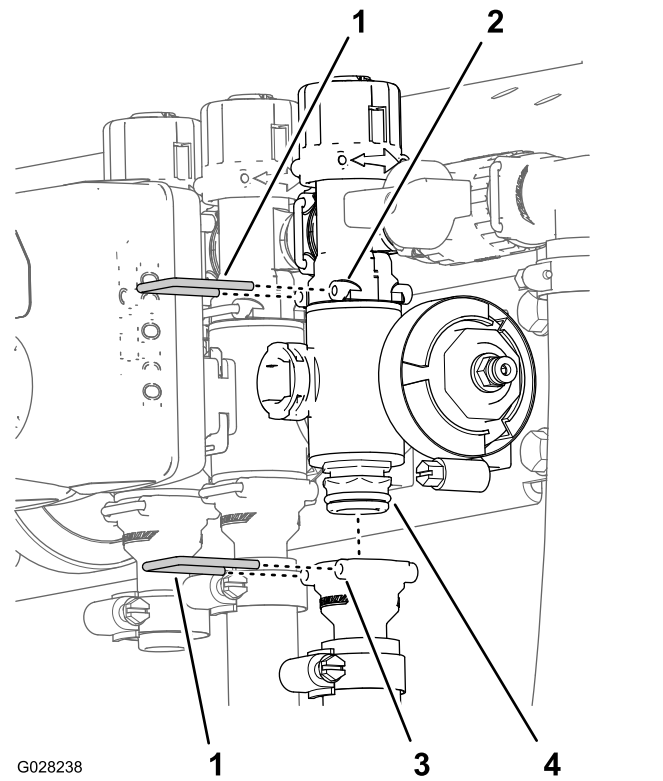

Figure 55
2. Remove the retainers that secure the outlet fitting to the section valve manifold and the valve manifold to the bypass fitting (Figure 55).